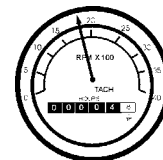

Figure 49. Engine Tachometer Gauge
10. The **tachometer gauge** (Figure 49) will indicate the speed of the engine when the generator is operating. Under normal operating conditions this speed is approximately 1800 RPM's.